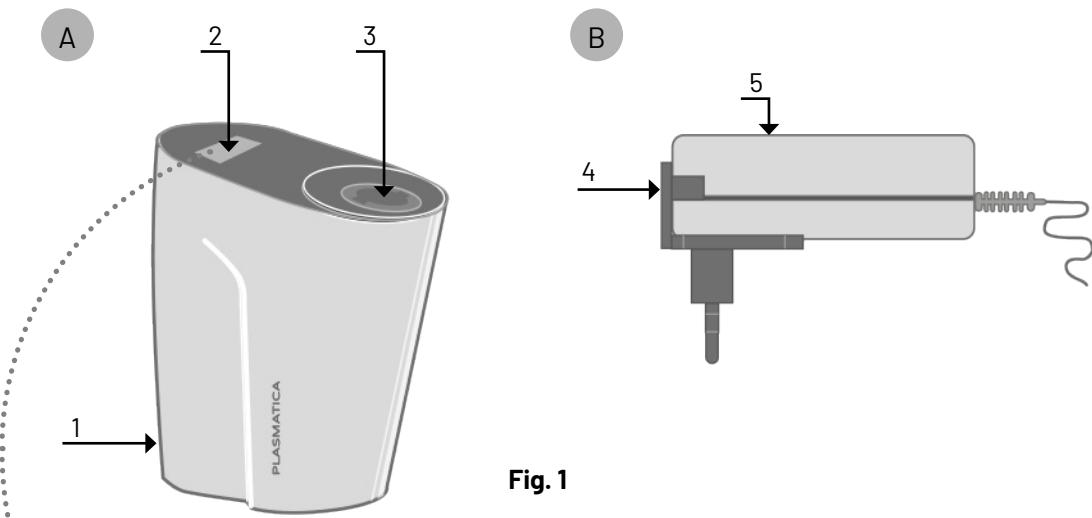

Fig. 1
1. Open the Disposable sterile pouch in the sterile field. Insert the Disposable fully into the Disposable inlet (see Fig. 1, A-3) in the Base until it clicks into position, and the Display Screen shows "READY".